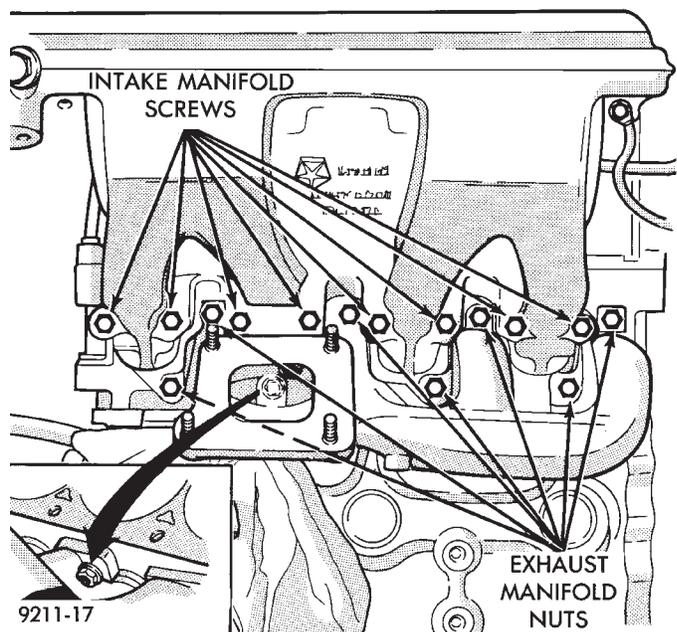

Fig. 9 Intake and Exhaust Manifolds—Turbocharged Engines
Remove 8 intake manifold screws and washer assemblies and remove intake manifold (Fig. 9).
Remove 8 exhaust manifold retaining nuts and remove exhaust manifold (Fig. 9).
(1) Install new two-sided grafoil or equivalent intake/exhaust manifold gasket. DO NOT APPLY SEALER.
(2) Position intake manifold, install, and tighten 8 retaining screws starting at center and progressing outward in both directions to 23 N•m (200 in. lbs.) torque. Repeat this procedure until all screws are at specified torque (Fig. 9).
(3) Set exhaust manifold in place. Install and tighten retaining nuts, starting at center and progressing outward in both directions to 23 N•m (200 in. lbs.) torque. Repeat this procedure until all nuts are at specified torque.
(4) Install cowl mounted heat shield.